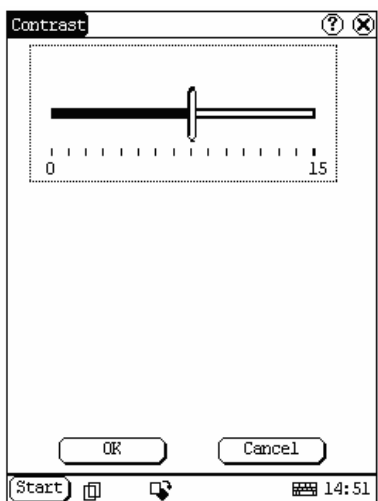

Figure 4-44
- 1) In the Control Panel interface, click 'Contrast' icon to open the Contrast interface. See Figure 4-44.